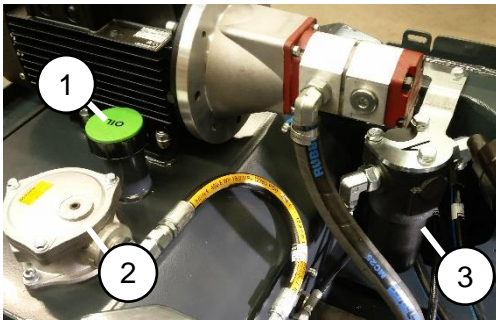

Figure 23 Hydraulic oil filters
- The cause of the malfunction can be found out on the splitter box (Figure 23) in the rear of the chassis. In the box connectors 1-4 are equivalent to the numbering of the outriggers